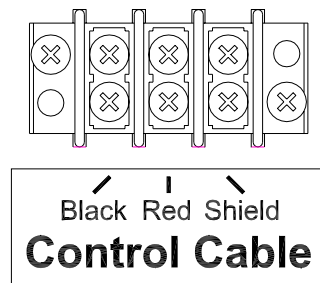

Figure 9 Control Cable Wiring Diagram
3. Connect the control cable to **Control Cable** terminal block according to figure 9.